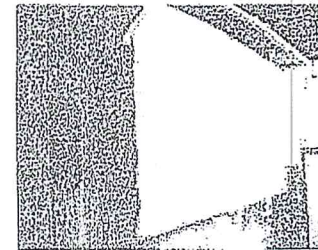

Figure 6
(1) The Door curtain is delivered ready rolled for installation pre fitted with T springs in factory and the bottom section to the outside of the roll. To ensure the curtain does not get scratched during installation, metal tube should be covered by cardboard or bubble wrap.
(2) Lift the curtain rolled and feed the bottom rail over the barrel section into the guides.
(3) Feed the door into the guides approximately half way. Un-roll the remaining curtain, so the curtain is hanging over the motor barrel (see Fig. 6). Gently lower the curtain into the guides (ensure all tools and equipment are inside the garage at this point)